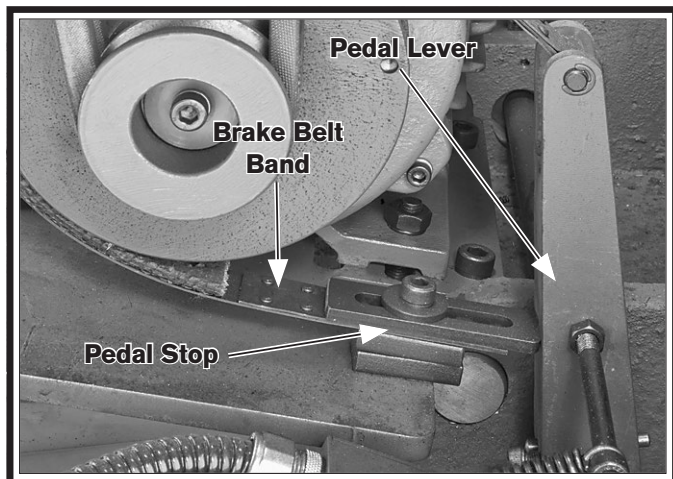

Figure 125. Brake belt adjustment components.
5. Remove the pedal stop shown in **Figure 125**.